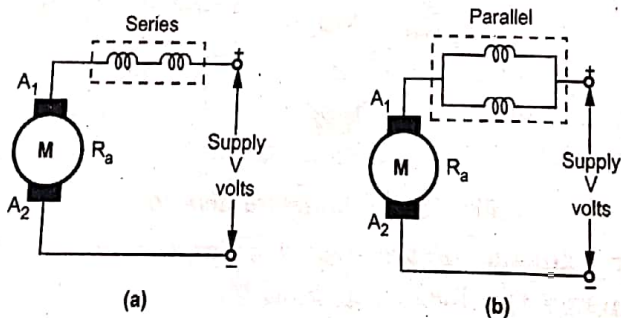

Fig. Q.52.5 Series-Parallel grouping of field coils
- The Fig. Q.52.5 (a) and (b) show the two parts of field coil connected in series and parallel.